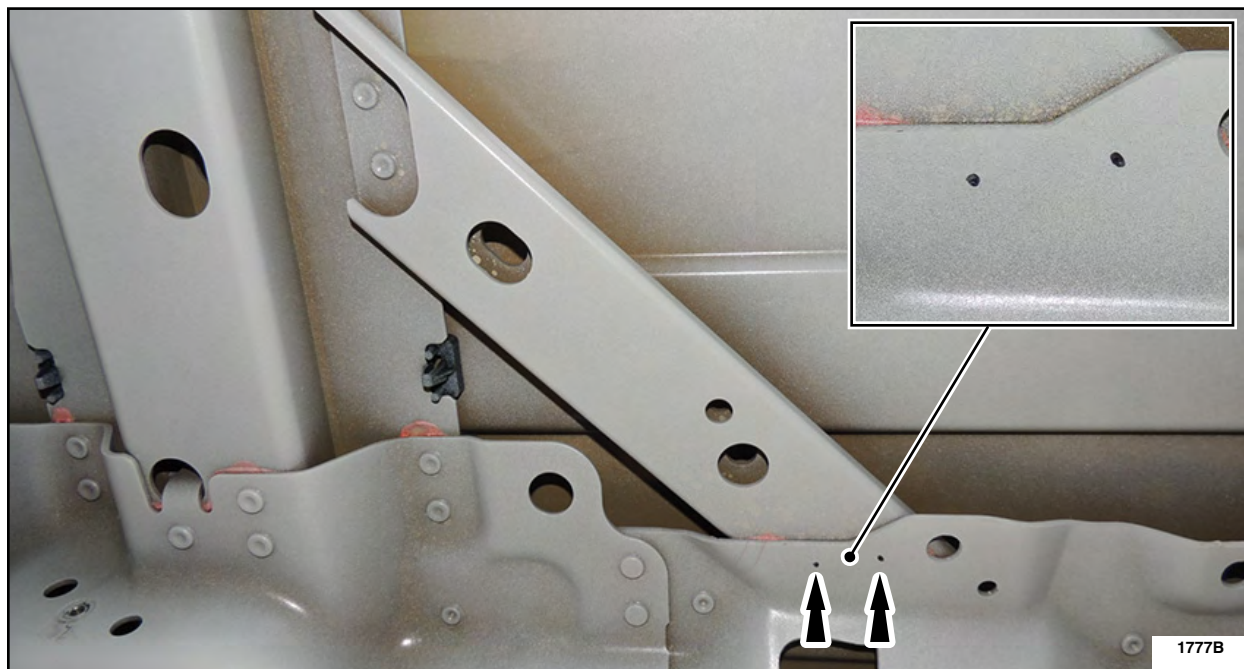

FIGURE 2
3. On both sides, mark the drilling locations on the roof rail at the center bow K-brace. See Figure 2.